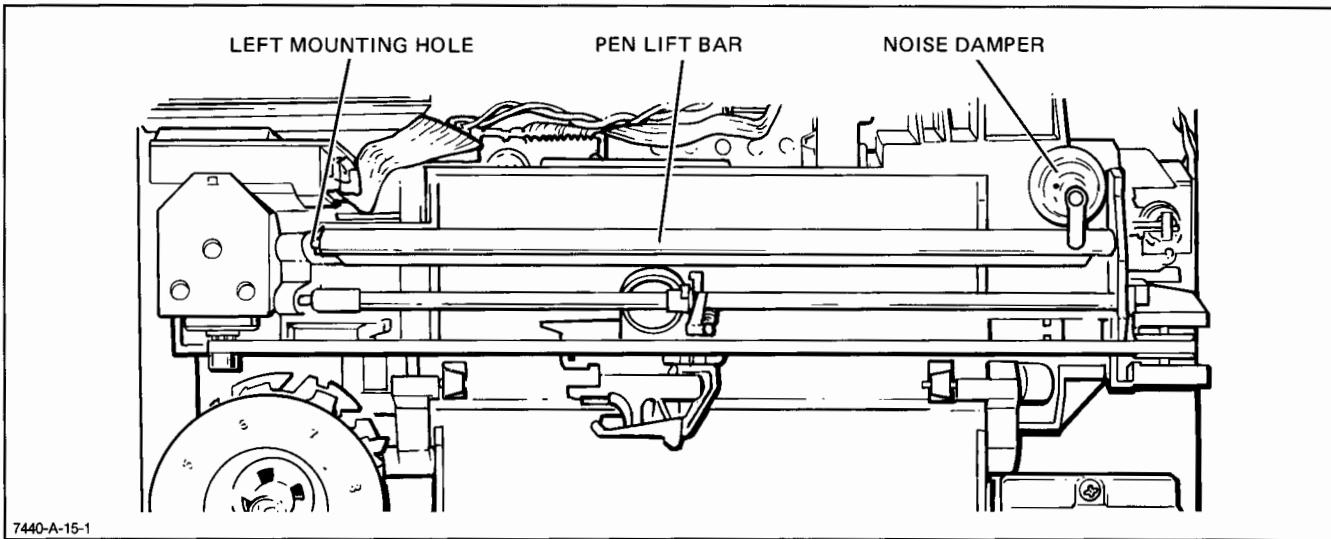

Figure 6-7. Pen Lift Bar Removal, Detail A
- d. Remove the pen solenoid assembly. If necessary, refer to the procedure, PEN SOLENOID ASSEMBLY REMOVAL. See Figure 6-7, Detail B.